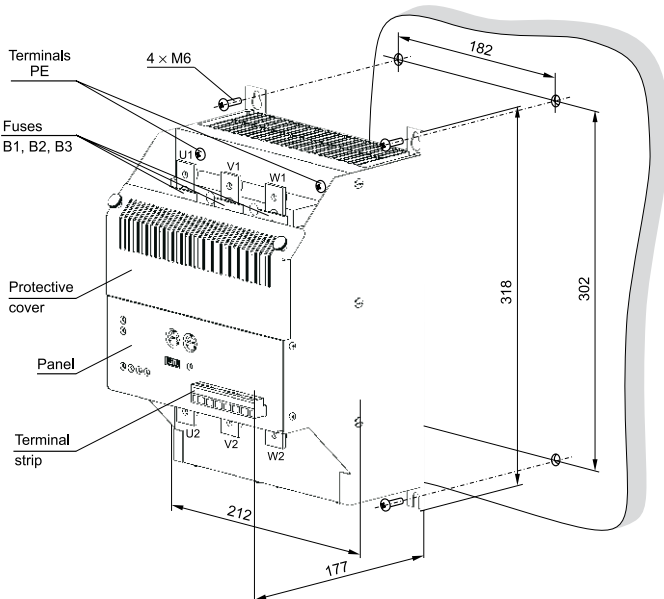
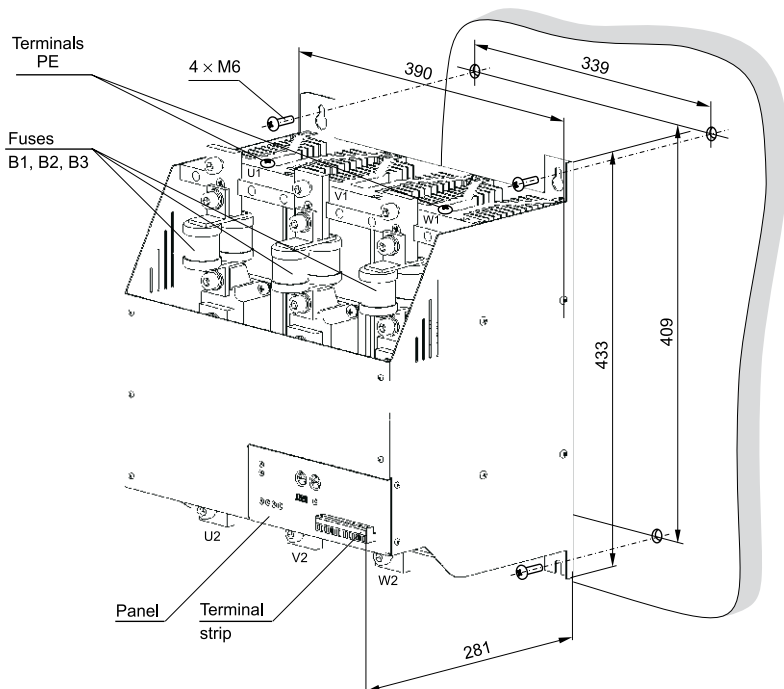

Fig. 1. Overall dimensions and fixing way of the power controller for 40 A, 70 A and 125 A versions.
Fig. 2. Overall dimensions and fixing way of the power controller for 200 A, 300 A, and 450 A versions.
The RP3 power controller is destined to be mounted on a wall by means of holders. Power controller overall dimensions, spacing of assembly holes and the fixing way are presented on fig.1 and 2.
- b) to high-current terminals (fig.1 and 2):
The supply of the strong-current circuit must be connected to **U1**, **V1**, **W1** terminals, however the load circuit to **U2**, **V2**, **W2** terminals (fig.1. and fig.2.)
Fuses in version RP3 -1x , 2x and 3x are accessible after removing the protection cover, fig.1.